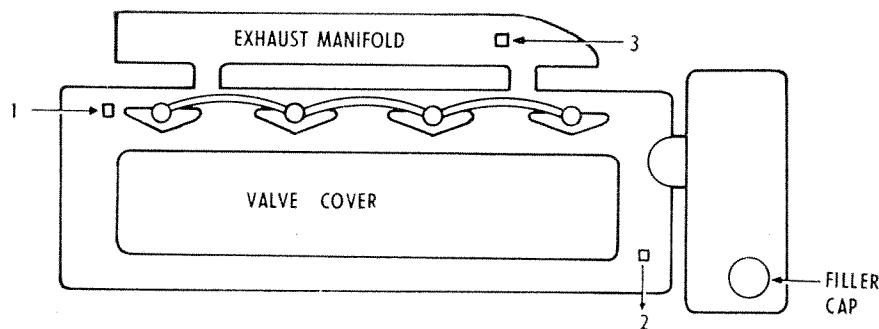

Fig. 9. Coolant Bleeding Points on Cylinder Head and Exhaust Manifold.
1. Remove the square headed plugs in the top faces of the cylinder head and exhaust manifold marked 1, 2, and 3 in fig. 9 and add water steadily to the cooling system header tank.